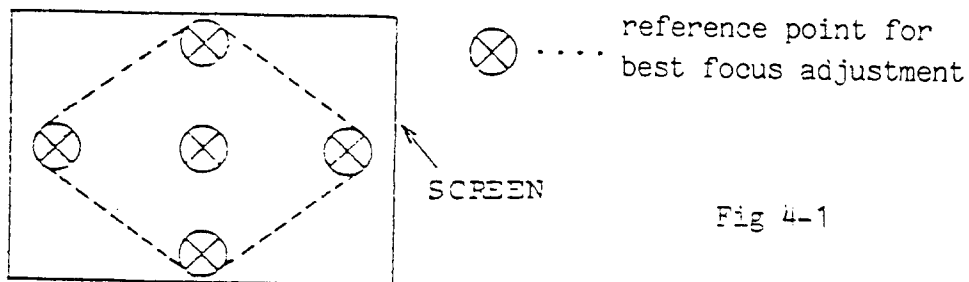

Fig 4-1
- (1) Select a dot test pattern.
- (2) Adjust the contrast control (R209) and brightness control (R208) for normal display.
- (3) Adjust the focus control located at high voltage resistor block for best overall focus. (See Fig 4-1)